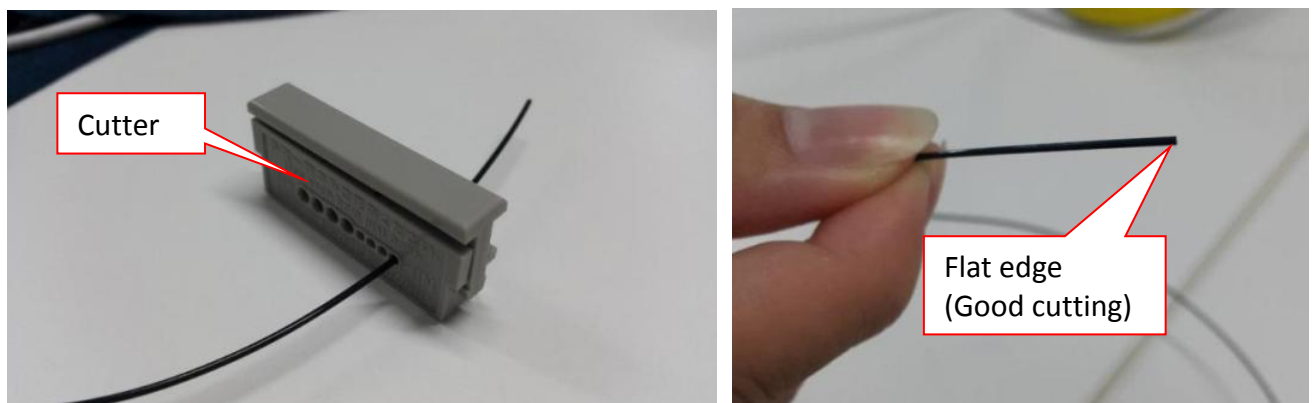

Figure 35 PIP Sensor Cable
8. Remove excessive PIP Sensor Cable as shown in Figure 35